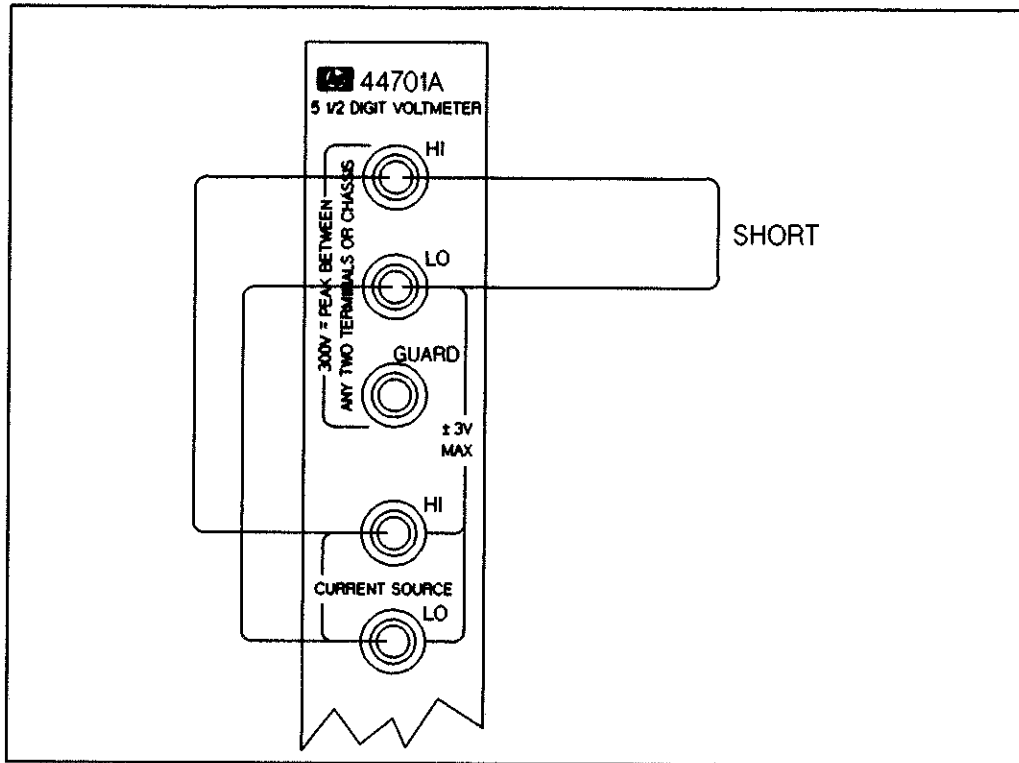

Figure 6-3 Ohms Offset Test Connections
3. Connect the HP 44701A rear panel Current Source HI Output Terminal to the rear panel HI Input Terminal. Connect the rear panel Current Source LO Output Terminal to the rear panel LO Input Terminal. Connect a low thermal short across the rear panel HI and LO Input Terminals. The connections are shown in Figure 6-3.